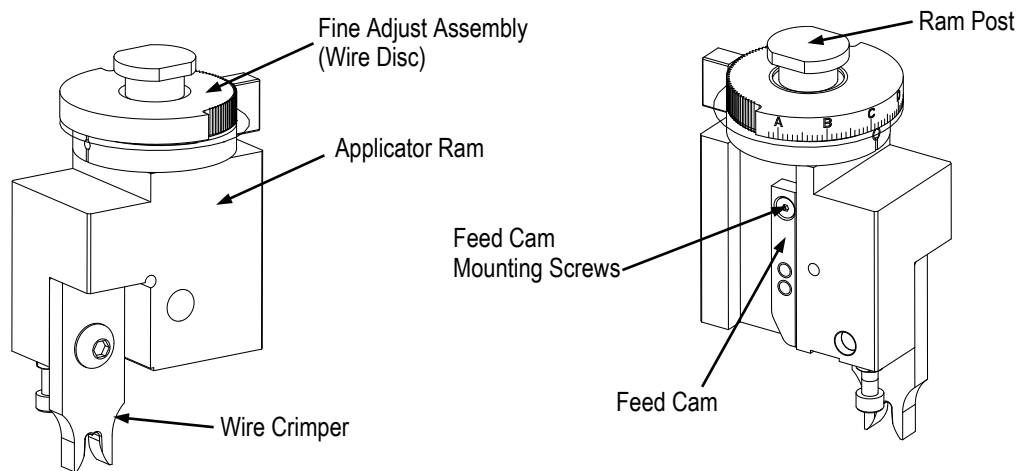

Figure 2
The main components of the applicators are identified in Figure 1. The ram assembly is shown in detail in Figure 2.
3. Remove the feed cam mounting screws securing the cam to the ram. See Figure 2.
4. Locate the new feed cam on the ram. Then re-secure using feed cam mounting screws. See Figure 2.